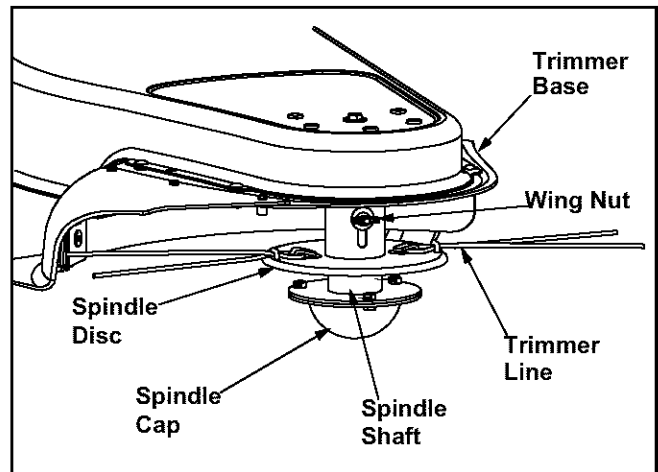

Figure 6
- The string trimmer mower is designed with a permanent off-set on the left side, in which the trimmer line is off-set from the trimmer base. This allows the operator to trim along a fence, landscaping, or a house without having to make any adjustments to the spindle assembly. Refer to Figure 6.
- The trimmer line is connected to the spindle disc, which can be raised or lowered. See Figure 6.
- Loosen the wing nuts and slide the spindle disc to the highest position and tighten to secure in position. Refer to Figure 6.